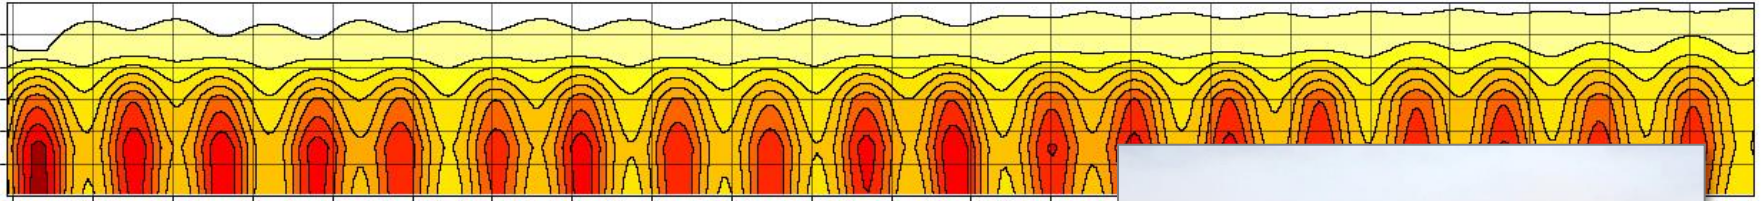

Figure 1
- Fig. 1 Overstreet M, Public domain, via Wikimedia Commons [online] https://commons.wikimedia.org/wiki/File:Concrete_saw.jpg, accessed 26/02/2024